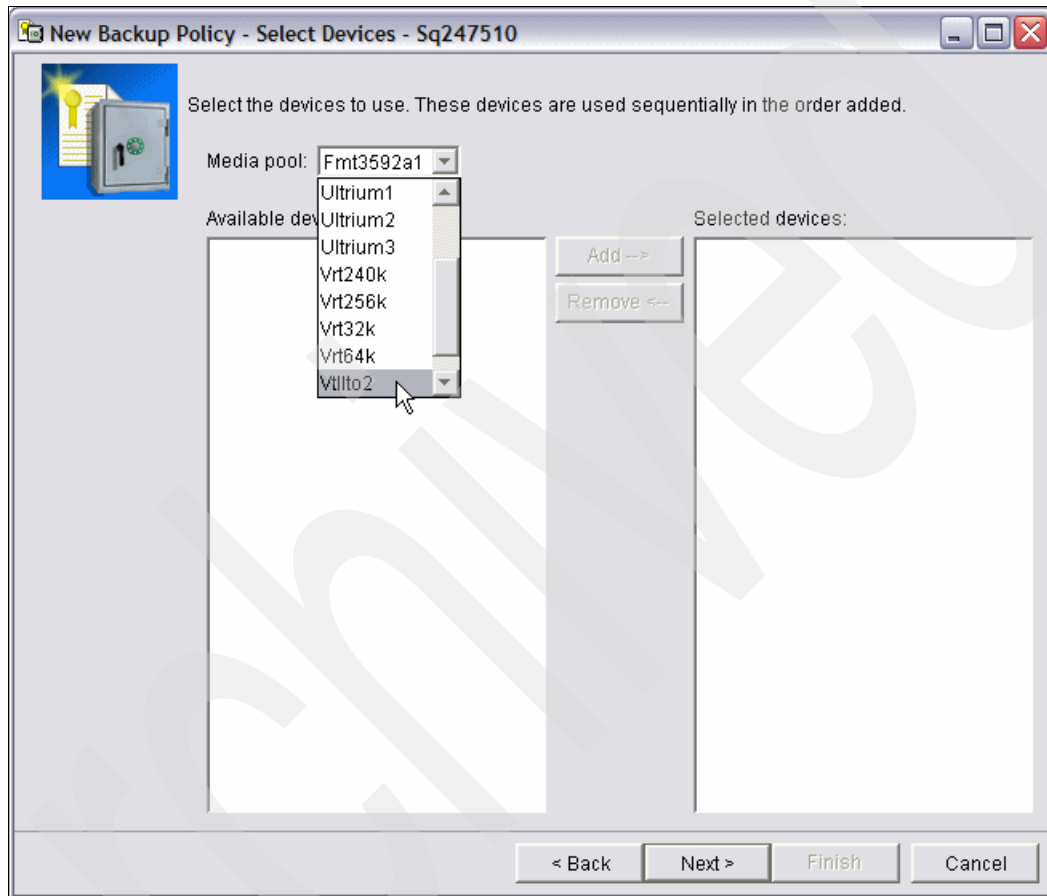

Figure 6-60 New Backup Policy - Select Devices
18. You have to select the media pool that your backup will use using the window shown in Figure 6-60.